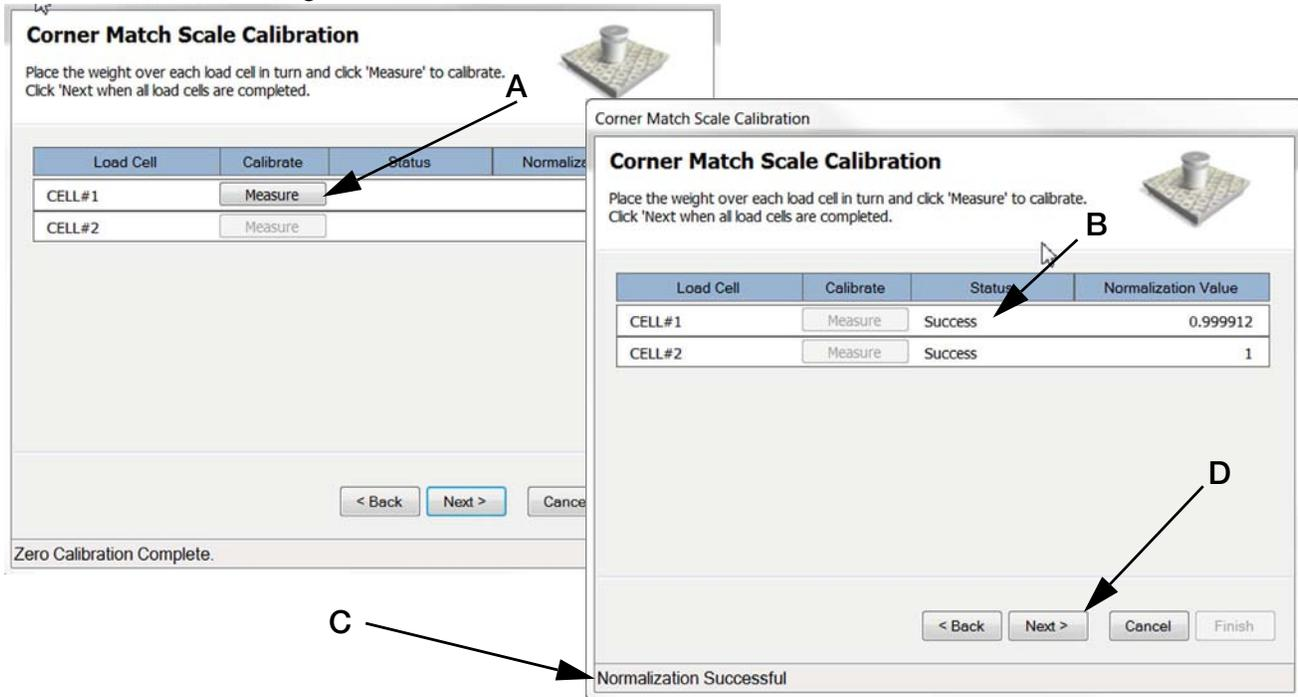

Figure 4-26. Load Cell Calibration
8. Press *Measure* (Fig 4-26 A).
9. Load Cell #1 Status will read “Success” (Fig 4-26 B) and Load Cell #2 *Measure* will become available. Repeat steps 9-11 for Load Cell #2.
10. When both load cells have been calibrated (status reads Success for both Cell #1 & #2, Fig 4-26 B) and the “Normalization Successful” message appears (Fig. 4-26 C) press *Next* (Fig. 4-26 D).